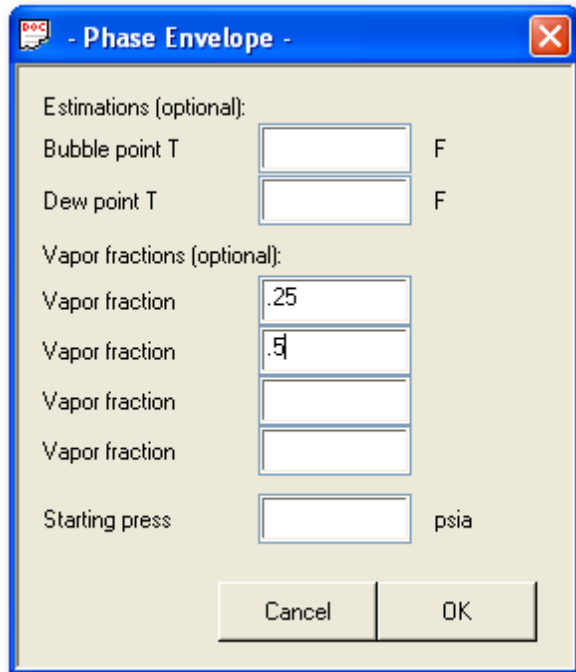

Figure 12 Plotting vapor fraction lines along with the cricondentherm dewpoint
2. No entries are required on this screen since you only need to look at the dewpoint line, but to make the plot more interesting, display the 0.25 and the 0.5 vapor fraction lines in addition to the normal phase envelope boundaries. Complete the dialog box as shown in Figure 12.